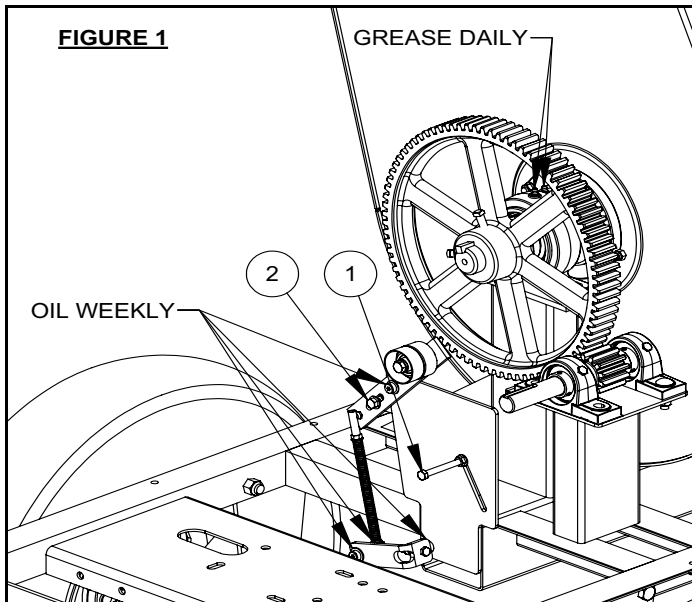

FIGURE 1
2. Loosen the nuts on the 3-1/4" long bolt (Figure 1, #1) below the drive belts. Move the bolt to within 1/16" of the belts and retighten the nuts.
3. Loosen nut on the 3/4" long bolt (Figure 1, #2) located in the slot on the idler arm.